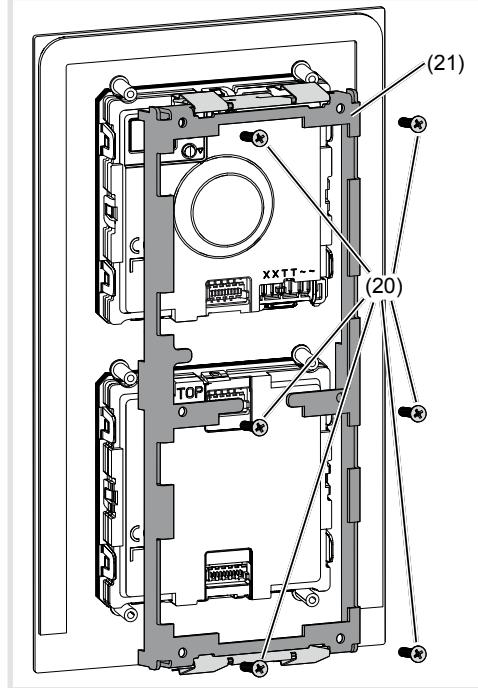

Figure 16: Dismantling module mounting
- Pull off connection terminal block (12) on the audio insert.
Loosen screws (20) of the module mounting at the back (21) using a screwdriver and remove the module mounting (Figure16).